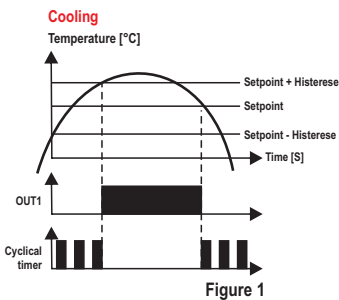

Figure 1
- **Timer triggered by SP1 (F22=1):** the timer is triggered whenever the temperature reaches the value configured for SP1. The timer switches off when the temperature reaches SP1 + F06 (if **stage 1** is configured as refrigeration) or SP1 - F06 (if **stage 1** is configured as heating), as shown in Figure 1.
- **Stage 1 linked to the cyclical timer (timer switches on upon power up) (F22=2):** in this configuration, the timer cycles according to the times configured in F20 (**[C0N]**) and F21 (**[C0FF]**). The **Stage 1** starts to cycle when the temperature reaches SP1 + F06 (if **stage 1** is configured as refrigeration) or SP1 - F06 (if **stage 1** is configured as heating), as shown in Figure 1.